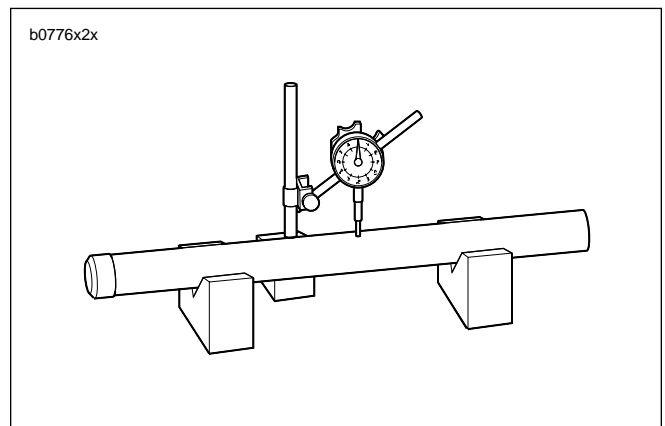

Figure 2-73. Slider fork Runout
3. Check the slide bushing (21) and the guide bushing (22) for excessive wear or scratches. Replace if damaged or worn.
4. Replace the stopper ring (19) if distorted.
5. Measure spring (16) free length. Replace springs shorter than the service wear limit of 18.77 in. (476.7 mm).
6. See Figure 2-73. Measure slider fork runout. Replace pipe if runout exceeds the service wear limit of 0.008 in. (0.2 mm).